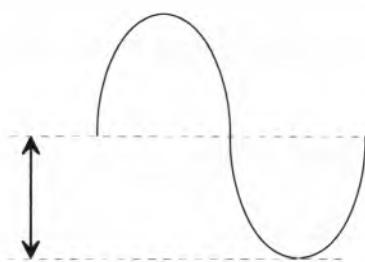

Figure 2
15. What is the name used for the voltage indicated in Figure 2 below?